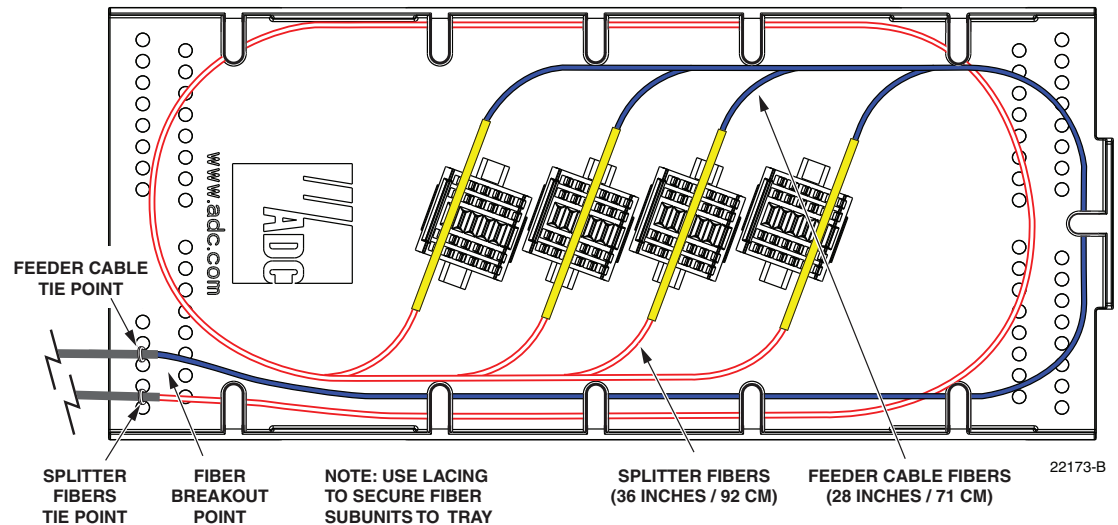

Figure 27. Stranded Fiber Splice Tray - Feeder Cable Splicing
10. Splice the feeder cable fibers to the appropriate splitter fibers as specified by local policies and procedures. Adjust and route the fibers within the splice tray as shown in Figure 27. Refer to Table 3 for the splitter fiber designations.